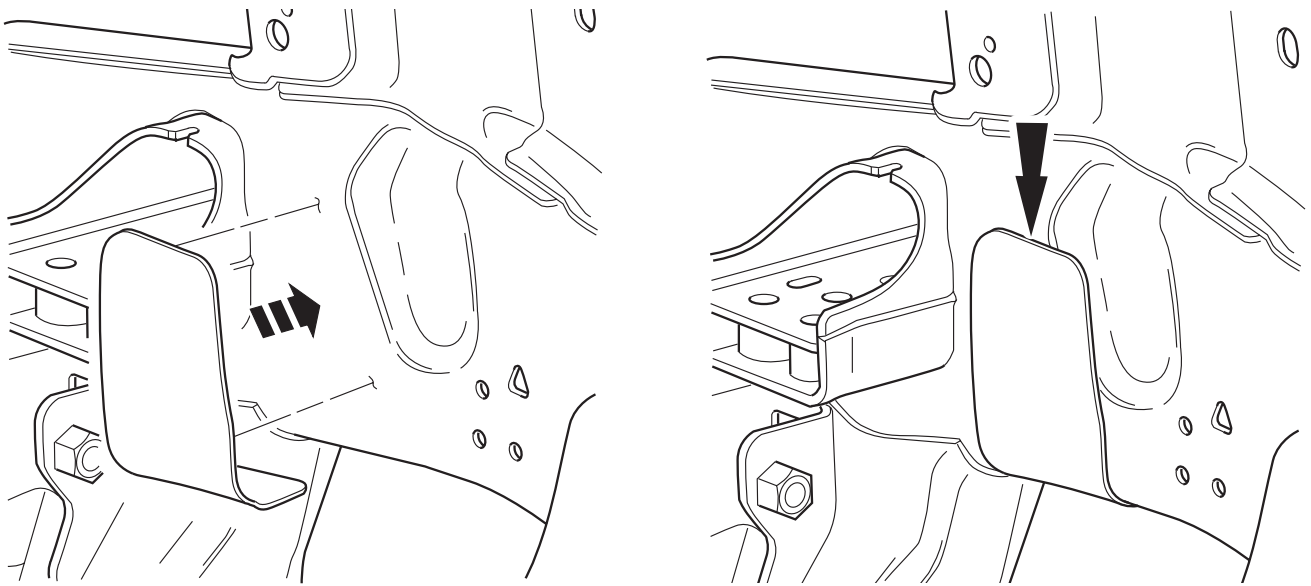

FIGURE 7 – VIEW OF REINFORCEMENT PLATE IN POSITION ON THE FRAME RAIL
- g. Perform final measurements, then solid weld the reinforcement to the frame rail following the weld procedure on page 3. (Refer to Figures 7 thru 10).